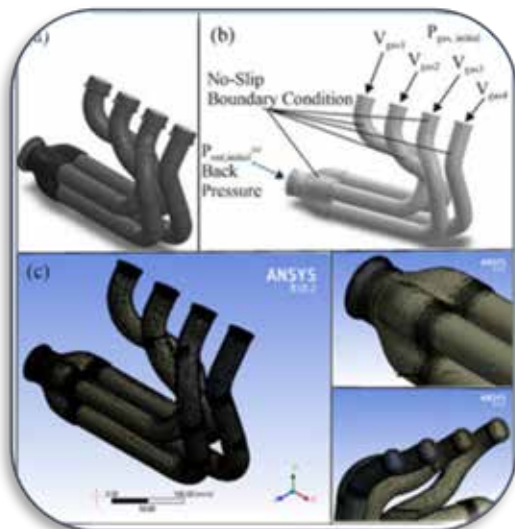

Figure 1. Exhaust manifold: volume of combustion gases that occupies the exhaust manifold. (a) Manifold design. (b) Boundary conditions. (c) Simulation meshing.
3. Simulation of the Exhaust System - Figure 1 shows the solution domain with the boundary conditions. More specifically, that figure shows the exhaust system and the 3D volume of exhaust gases, with the boundary and initial conditions within the exhaust (the solution domain simulated). In addition, the discretized solution domain, including cut-cell elements at the outlet of the manifold, the entrance of exhaust gases into the manifold, and the entire 3D volume simulated, is presented.